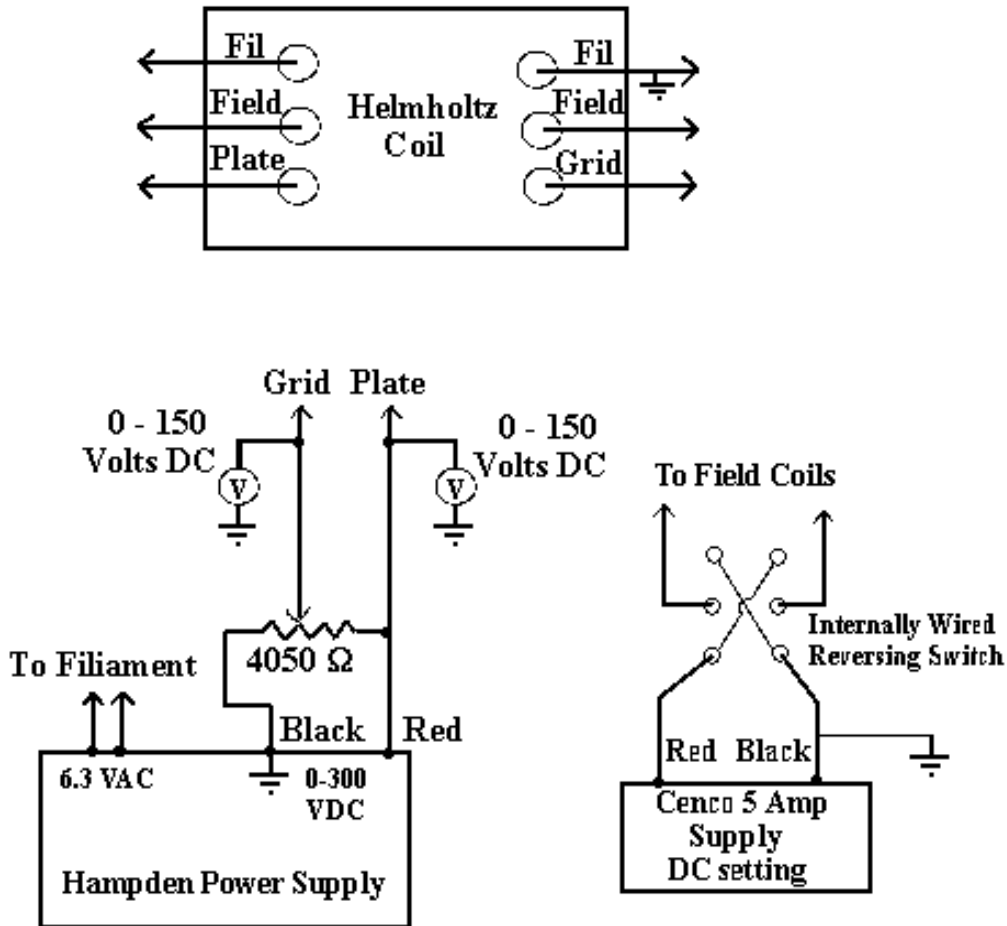

Figure 3: Wiring Diagram
2. Assemble the circuit shown in Figure 3. Be sure that the lead to the grid is connected to the sliding arm connector of the resistor. This will produce a grid voltage at some fraction of the anode voltage. ***Make all grounds common.*** Be sure all meters are connected so as to respect their polarities.
7. To obtain your best value of e/m , Plot your data as ϕ/r^2 versus I^2 . Use the method of least squares to determine the best straight line fit. Force the intercept to be the origin, that is, you want the function to be of the type $y = cx$. The ratio of e/m can be determined from this slope and equation (6). Be sure to record the fitting error.